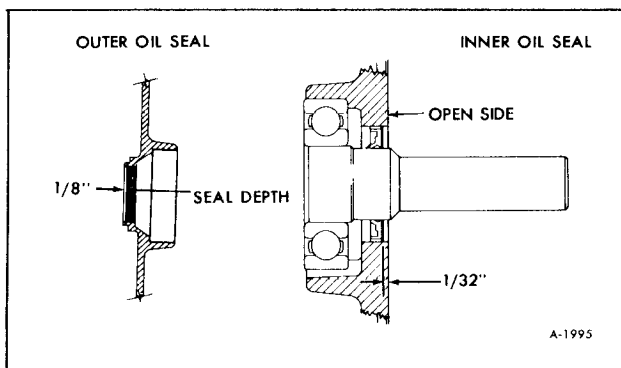

Figure 19—Oil Seal Installation Details
**INSTALLATION:** Care must be used during installation to prevent the lip of the seal from rolling and creasing. Apply a liberal amount of light grease such as Lubriplate on the seal lip area. Use seal driver and seal sleeve of appropriate size. Press only against outer edge of seal when installing. Press squarely into position to the depth specified in Figure 19.